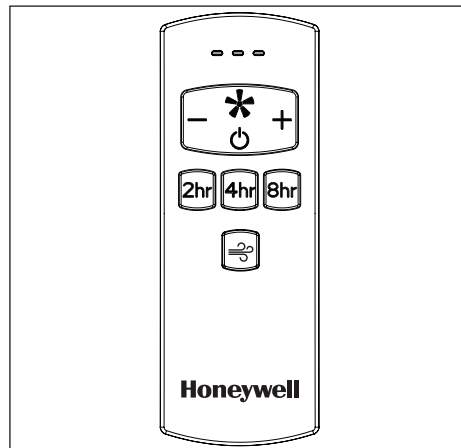

Figure 6.2
2. To operate the fan using the remote, press and release the following buttons (Figure 6.2):